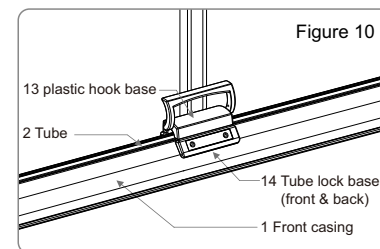

Figure 10
2. Remove the handle from the fastener at the top of uphold bar .Grasp the handle, lower the screen to allow it retract into the case. Be sure the handle base connected with tube lock base. (Figure 10)